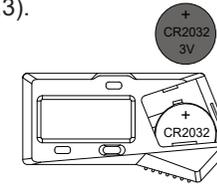

fig.2
- Put CR2032 battery into battery house, the positive side of battery (+) should face out (fig.2).